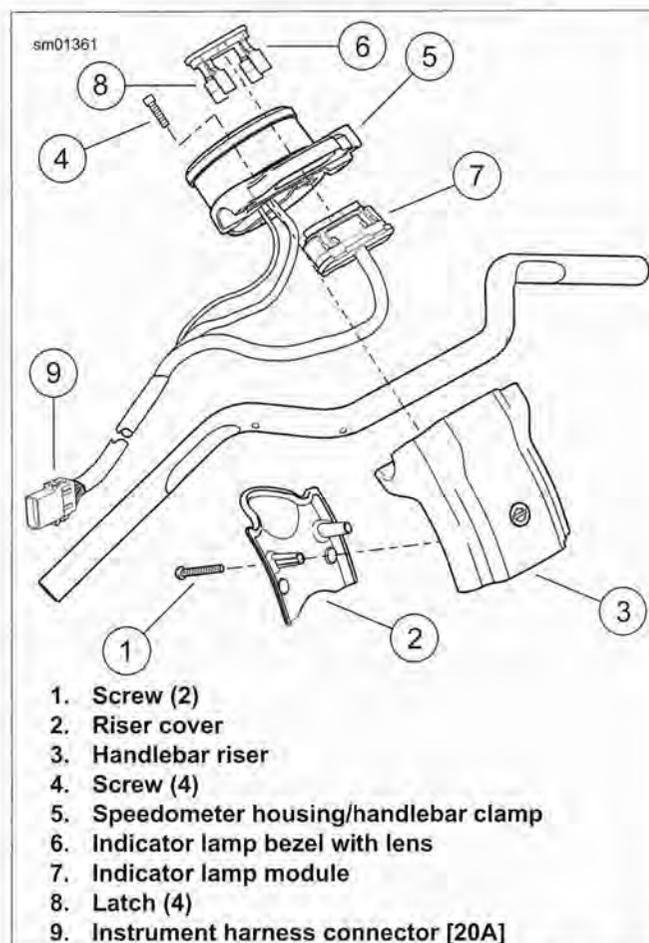

Figure 6-51. Indicator Lamps: XL 1200C/CP Except w/Mini-Ape Handlebar
1. See Figure 6-51. Remove two screws (1) and riser cover (2) from behind handlebar riser (3).
2. Remove four screws (4) securing speedometer housing/handlebar clamp (5) to handlebar riser.
3. Carefully bend back four latches (8) on indicator lamp bezel (6) and remove indicator lamp module (7).
11. See Figure 6-51. Install indicator lamp module (7) into back of speedometer housing/handlebar clamp (5). Secure with four latches (8) on indicator lamp bezel (6).
12. Install speedometer housing/handlebar clamp onto handlebar riser (3) and secure with four screws (4).
13. Install riser cover (2) behind handlebar riser and secure with two screws (1). Make certain that handlebar control harnesses are not pinched between handlebar riser and riser cover. Tighten screws to 8-12 **in-lbs** (0.9-1.4 Nm).